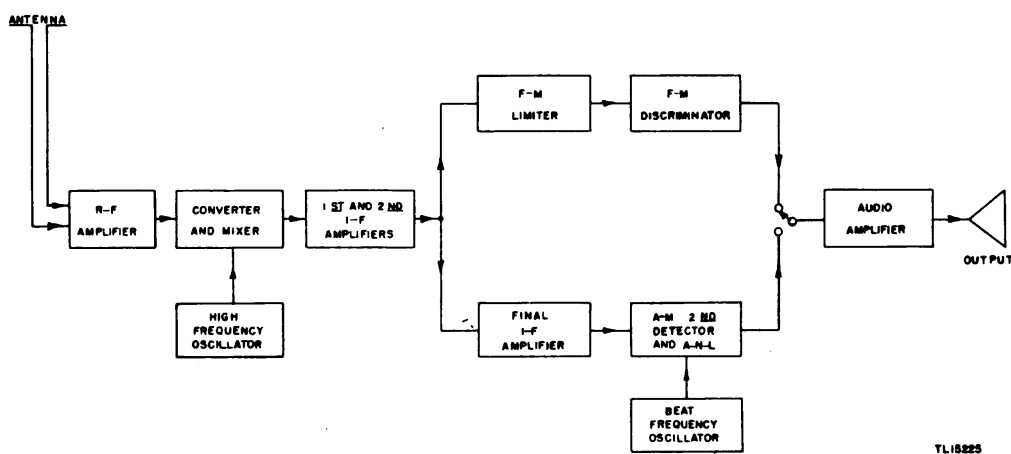

Figure 6. Radio Receiver BC-787-B, block diagram.
b. F-m Signal Reception. When receiving f-m signals the circuit consists basically of a stage of tuned radio-frequency amplification, a converter stage, a high-frequency oscillator, two stages of intermediate amplification, limiter, discriminator, tuning indicator, audio-frequency voltage amplifier, and a push-pull audio-frequency power amplifier. The block diagram in figure 6 illustrates the above circuit arrangements.